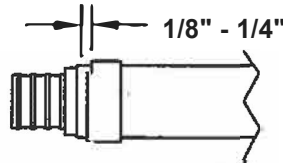

Figure 2
- Position crimp ring on pipe 1/8" from end of pipe, with the pipe pushed fully onto the fitting. (fig. 2)